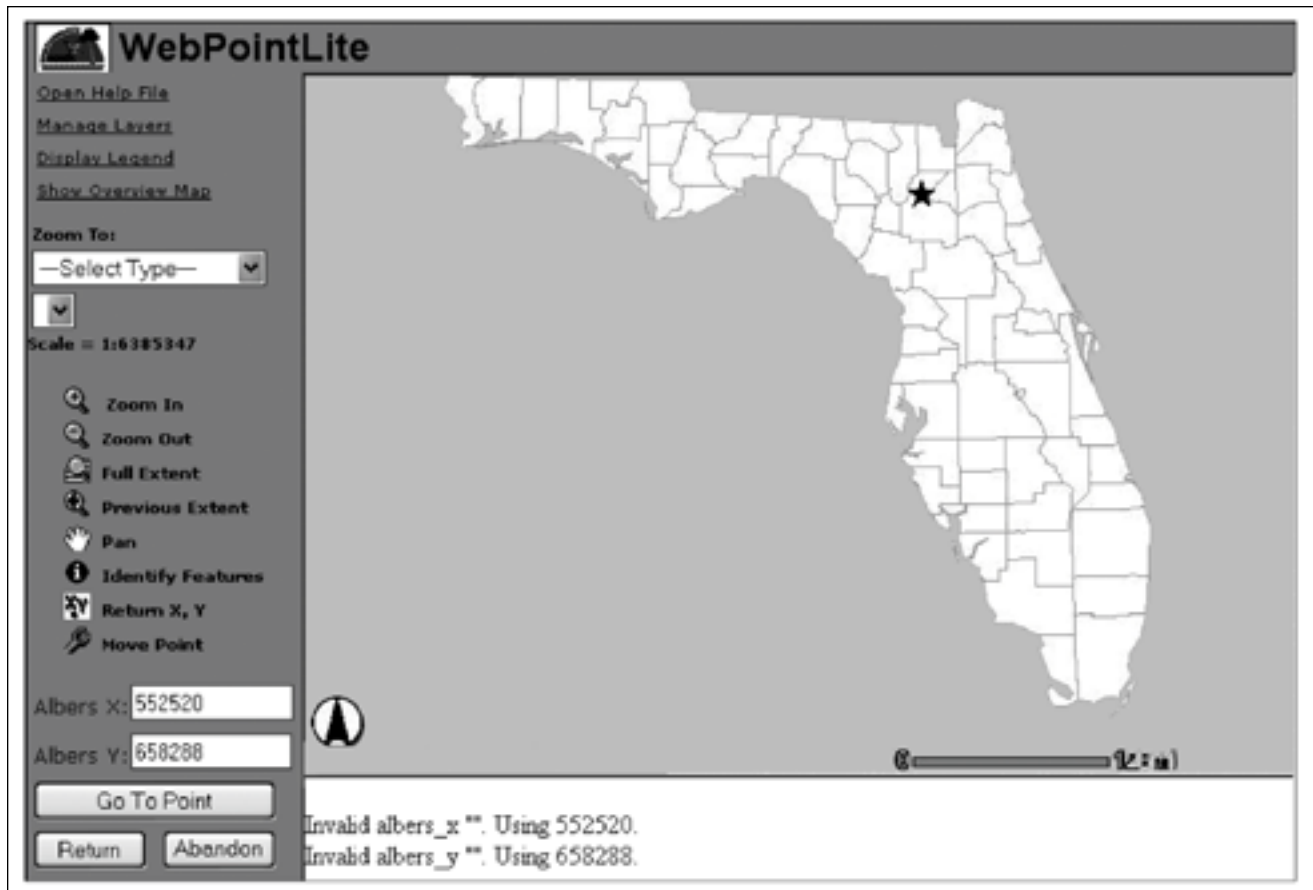

Figure 5. WebPoint Lite interface displaying the location when no location details are available.
- c) When the WPL window is launched, if the latitude/longitude fields are incomplete and facility location zip code is not available then WPL window will display the Florida map with map point located in the center of Florida (See Figure 5 below).